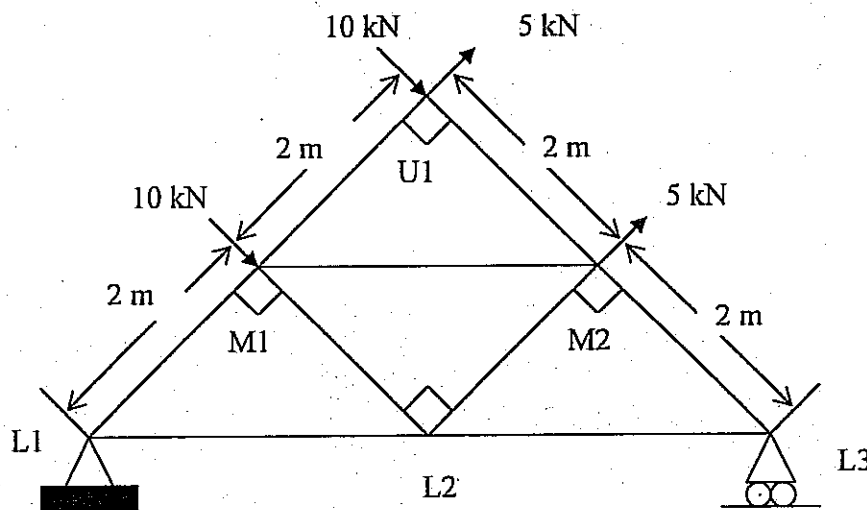

Figure Q1
1. A Symmetrical structure is loaded as shown in Figure Q1.
ii). The truss shown in Figure Q1 is proposed to use as a roof truss. Considering following details find the total wind load applied on Joint M1, if L1U1 is windward slope. (10 Marks)